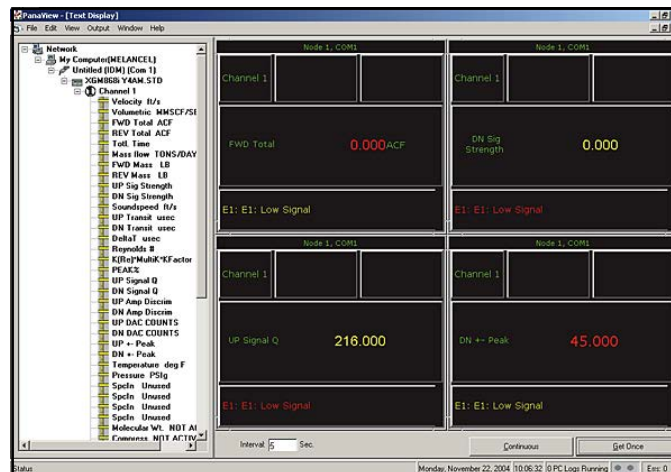

Figure 21: Multiple text screens in the text display window
2. Repeat Step 1 for any desired additional process parameters, by double clicking on them in the *PanaView* network tree. *PanaView* automatically tiles the multiple text screens in the right pane of the *Text Display* window, as shown in *Figure 21* below.